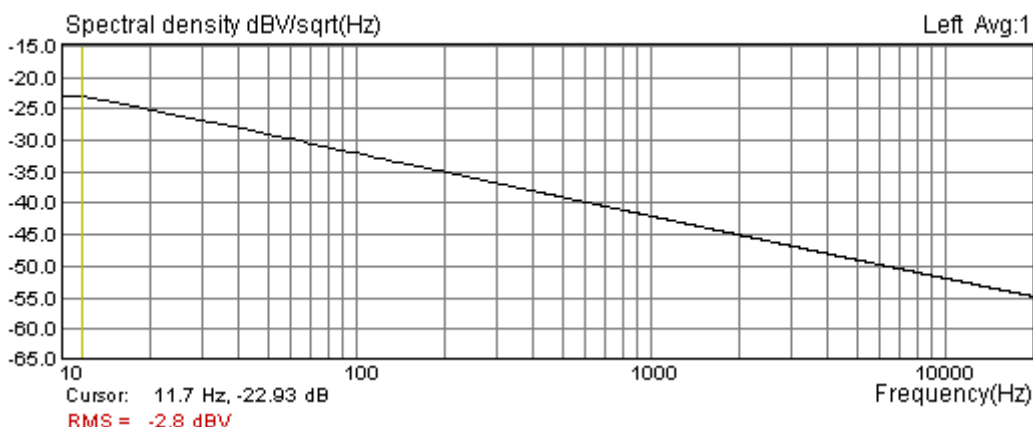
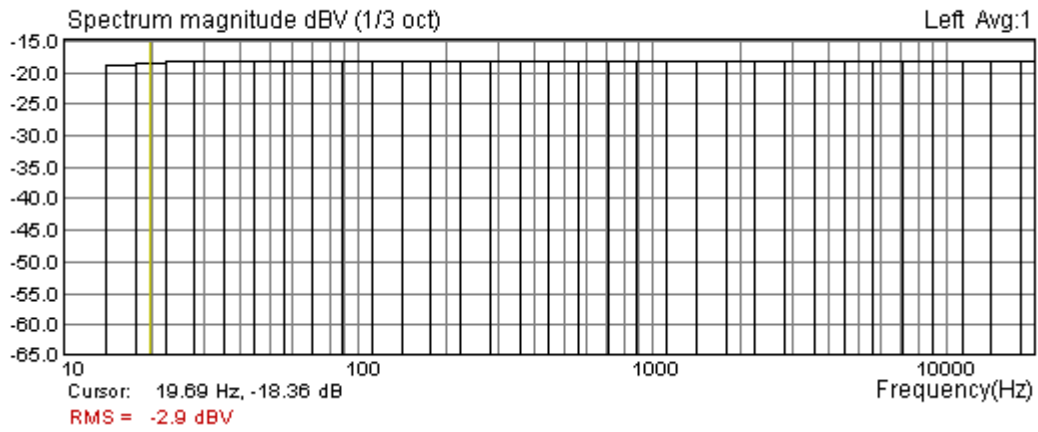

Figure 2.16 Octave-smoothed spectral density of periodic pink noise (PSD Scaling)
Figure 2.17 Octave-band spectrum of periodic pink noise (dBV Scaling)
2. **Pink PN** - it has $A_k = \sqrt{2}A_{2k}$, and spectral magnitudes roll-off 3dB/oct (after some cut-off frequency - see Fig. 2.16). In the ARTA, a variable low frequency cut-off frequency can be changed in the dialog box '**Signal Generator Setup**'. The pink noise is usually used in octave band or 1/n octave smoothing modes with a dBV scaling (see Fig. 2.17), as it gives a linear frequency response in bands with a constant relative bandwidth.